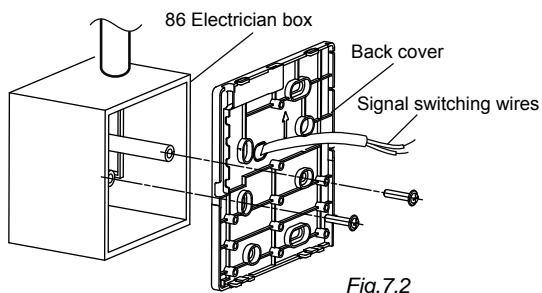

Fig.7.2
4. Adjust the length of two plastic screw bars in the accessory to be standard length from the electrical box screw bar to the wall. Make sure when install the screw bar to the electrical box screw bar, make it as flat as the wall. (Fig.7.2)